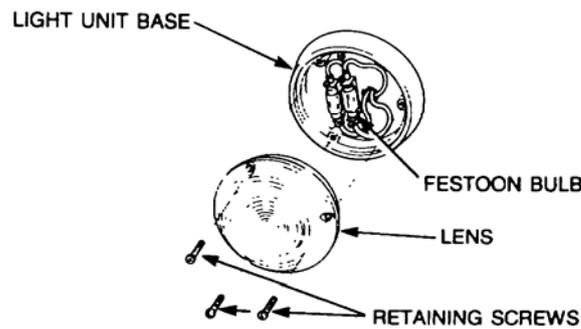

Figure 16 High Level Lights (Rear Door) Bulb Replacement
- a. Remove the three screws securing the lens to the base of the light unit (refer Figure 16).
- b. Remove the three screws securing the lens to the base of the light unit (refer Figure 16).